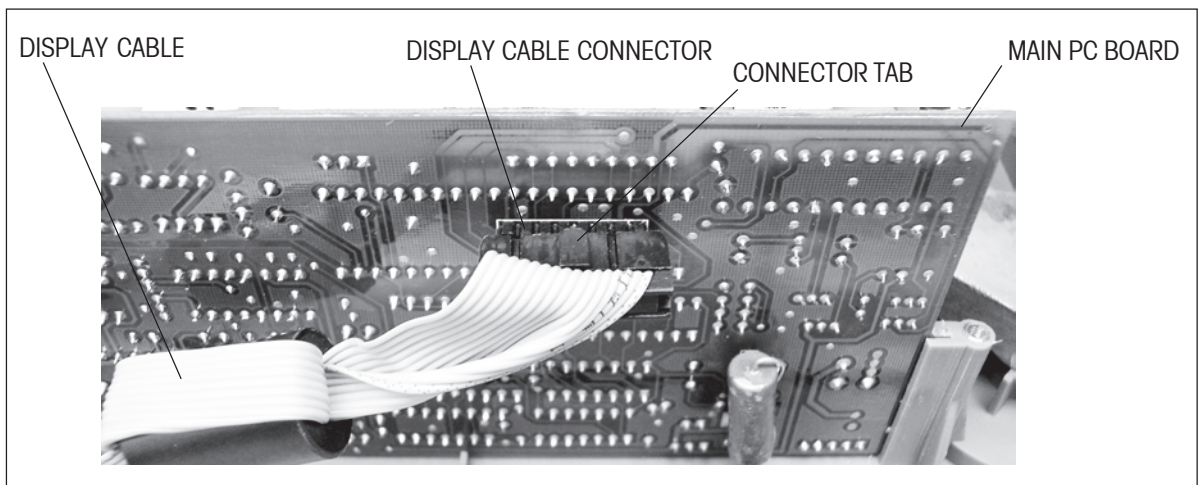

Figure 4-8. Installing Display Cable to Main PC Board.
10. Connect the Display Cable to the Main PC Board connector. See Figure 4-8.